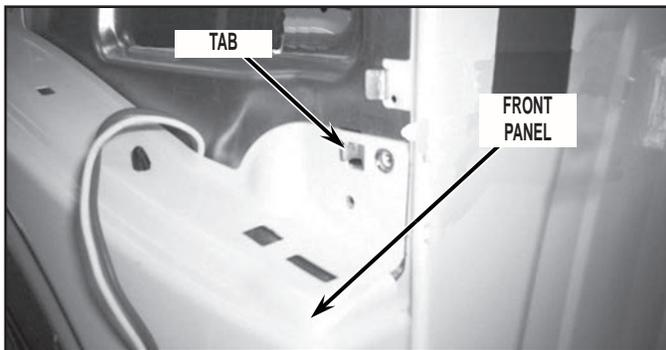

FIGURE 9
12. Remove front panel assembly from dryer by lifting panel assembly up and off tabs (one each side) as shown in *Figure 9*.